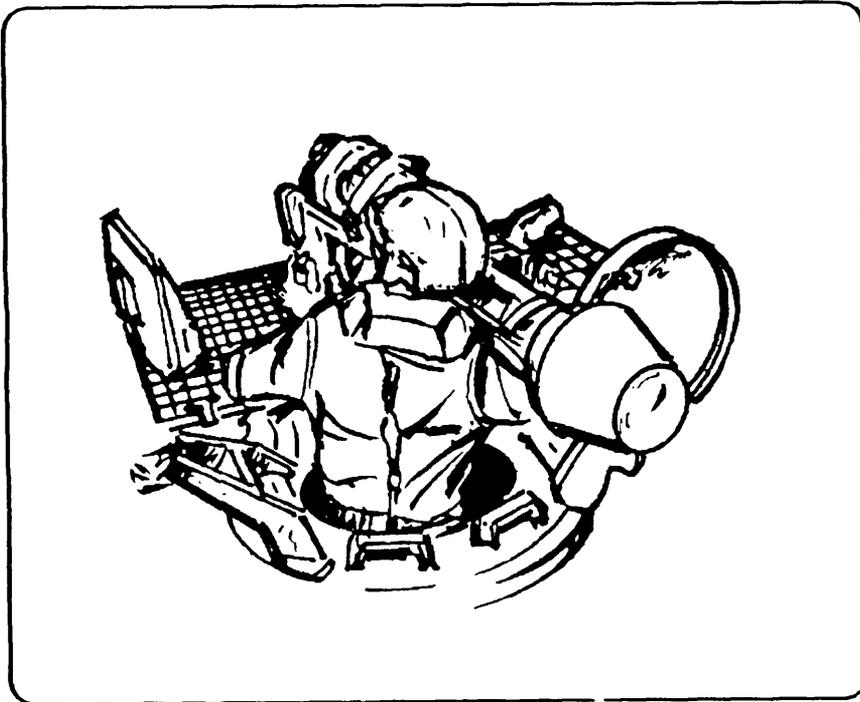
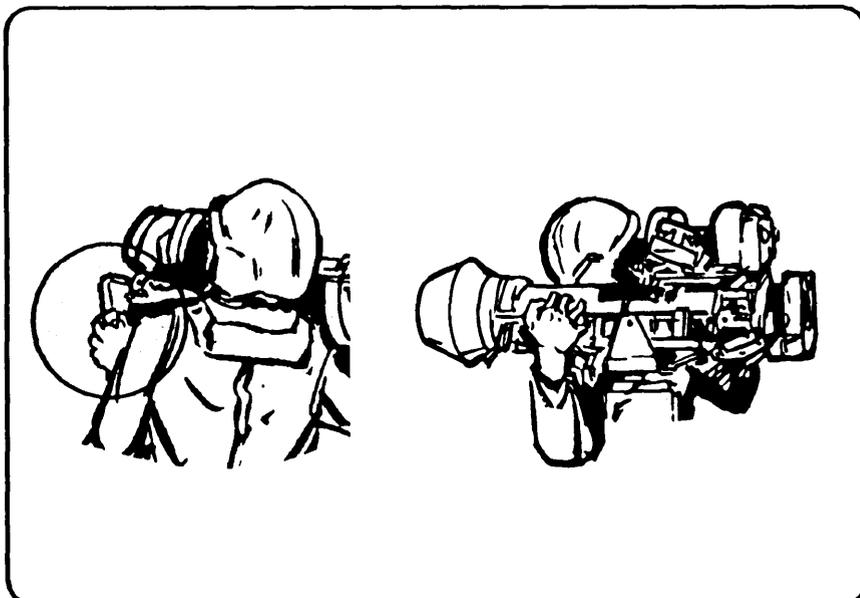

Figure 7-8. M175 firing position on APC.
Figure 7-9. M175 firing position.
a. Demonstrate the M175 mount position on the APC, then have the soldiers assume the position (Figure 7-8).
(1) Adjust the commander's chair in the APC so that when the gunner is in the firing position, both feet are flat on the chair with knees and body straight.
(2) Keep the feet apart at a comfortable angle.
(3) Ensure that the left arm and hand exert maximum rearward pressure on the elevation damper. This action pulls the cradle down against the gunner's shoulder (Figure 7-9).
(4) Position the right hand on the M175 mount firing mechanism the same as with the tracker firing mechanism: right thumb on safety; index, middle, and third fingers on the trigger lever; and the little finger forward of the trigger mechanism.